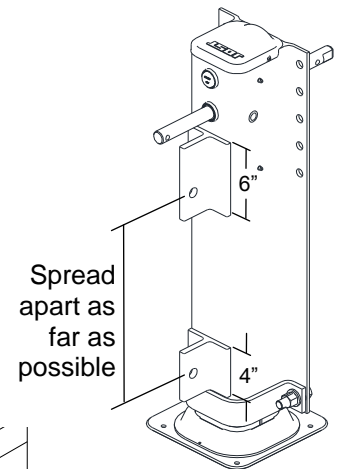

Figure 1
Step 3) Tack the lugs into position (see figure 1).